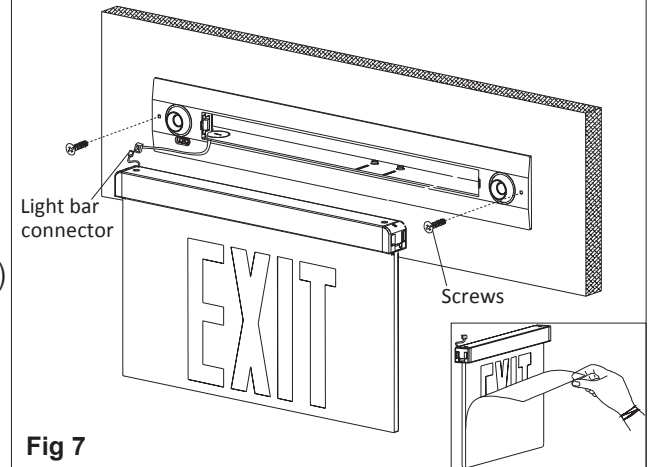

Fig 7
7. Assembly trim plate back use M3\*15mm screws. (see Fig 7 or 8)
9. Peel off protection film from EXIT panel, Connect light bar connector, assembly panel module to trim plate, adjust position of lamp heads as need. (see Fig 7 or 8)